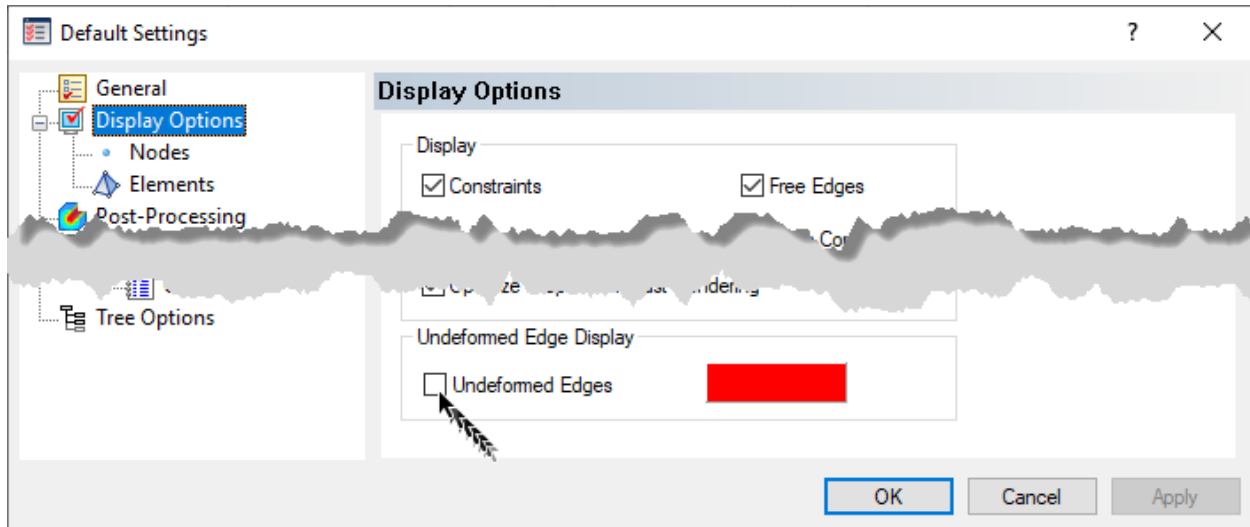

Figure 87 - Default Settings will turn off the undeformed edges for all analyses.
- To turn off for all models, use the ribbon to uncheck “System > Default Settings > Display Options > Undeformed Edges”. See Figure 87.